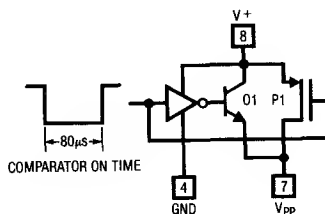

Figure 3.  $V_{PP}$  Output Switch
Figure 3 shows the  $V_{PP}$  output circuit. The  $V_{PP}$  output voltage is not precisely controlled when driving a load (see typical curve of  $V_{PP}$  output voltage versus load current). In spite of this, high precision can be achieved in two ways: (1) driving ratiometric networks and (2) driving fast settling references.